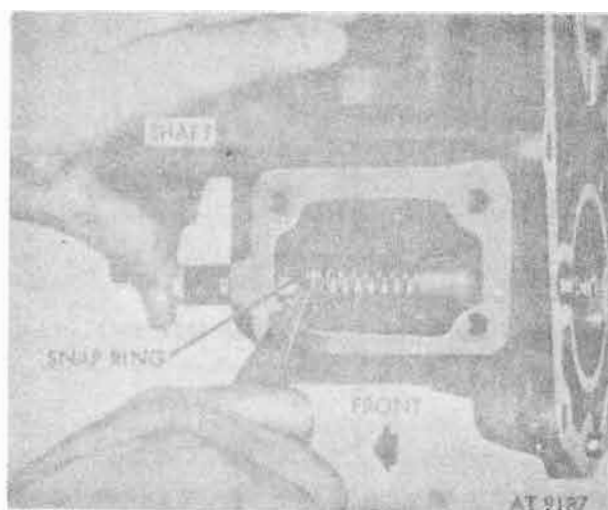

Figure 8-54. Shifter fork front snapping.
d. Push shifter shaft toward rear and remove front snapping (fig. 8-54).